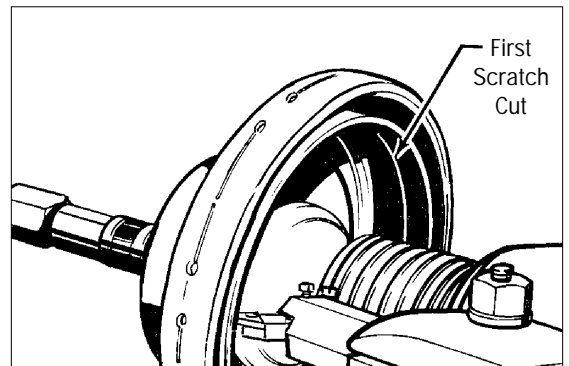

Figure 12 - First scratch cut
8. Advance the tool bit manually until it just contacts the drum surface momentarily and makes a scratch cut (figure 12).